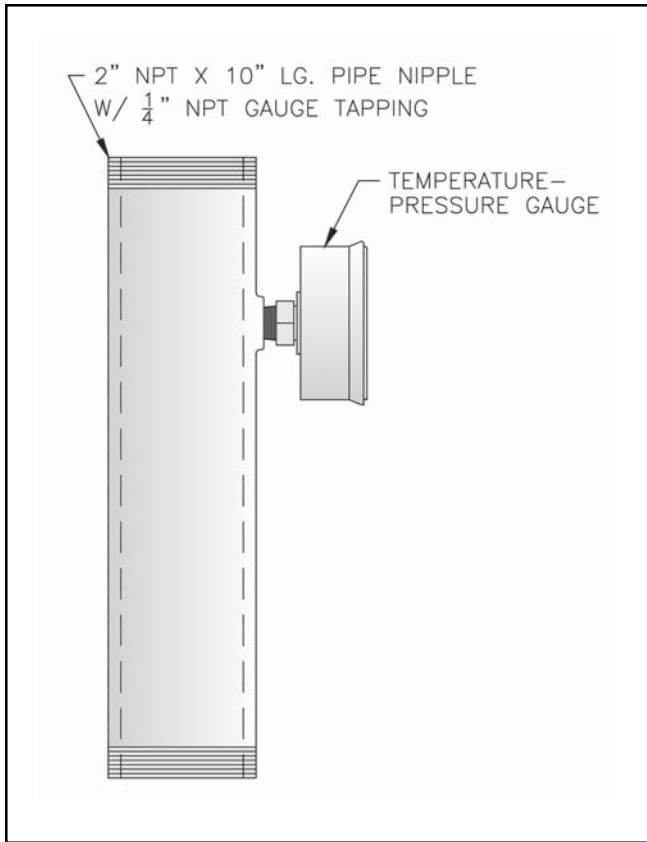

Figure 22: Temperature-Pressure Gauge Installation
1. Standard Temperature - Pressure Gauge Piping. See Figure 22.